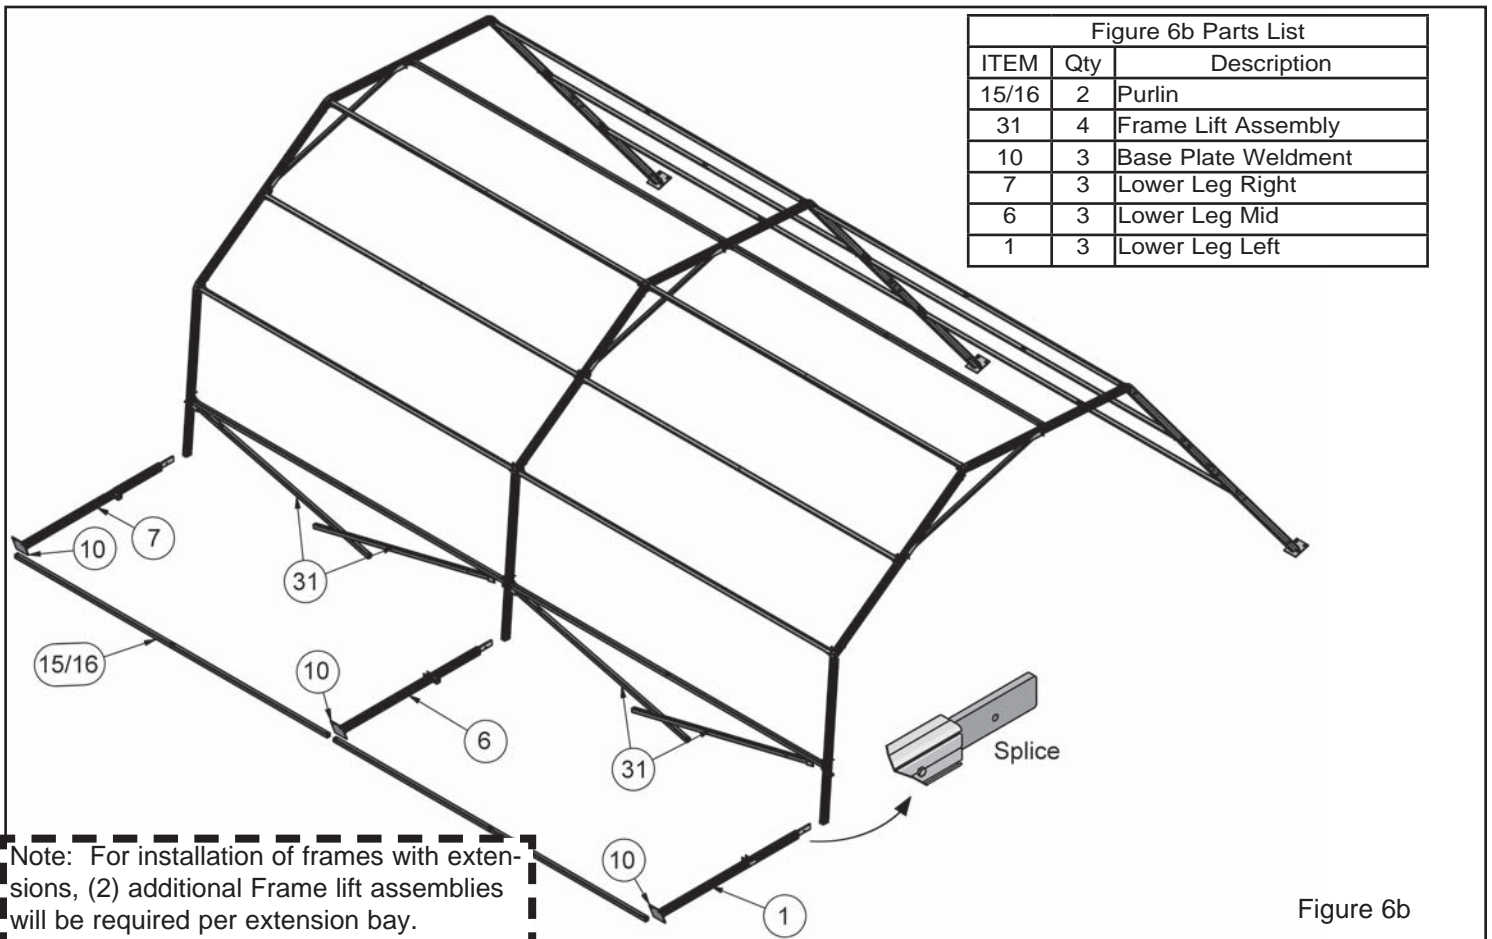

Figure 6b Parts List
- Secure the frame lifts to the purlin on the upper leg with the shock cord. The shock cord should be next to the leg and the half purlin lying more or less under the purlin. See Figure 6b.